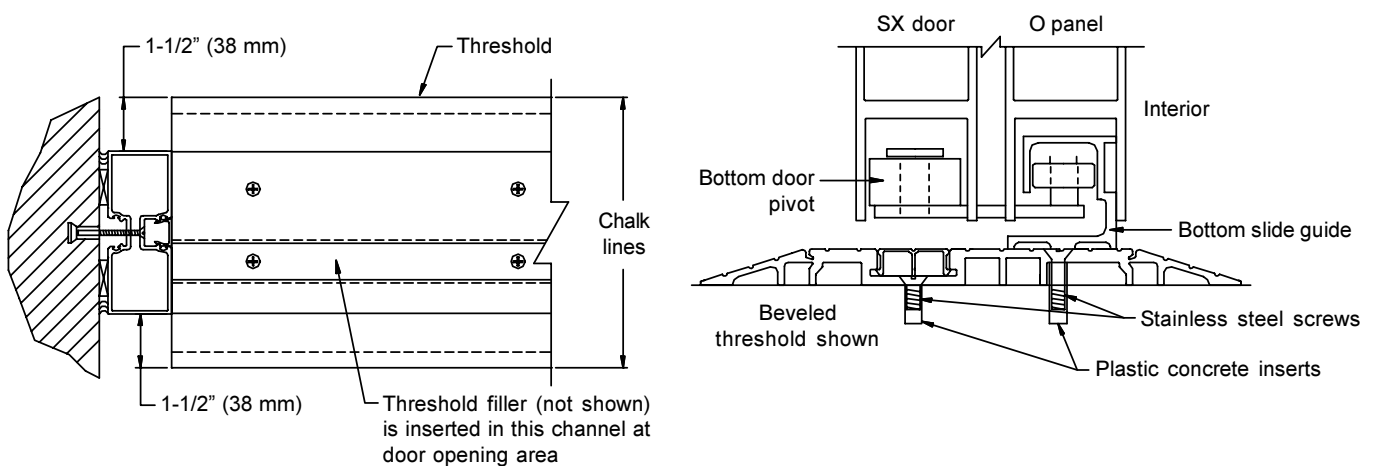
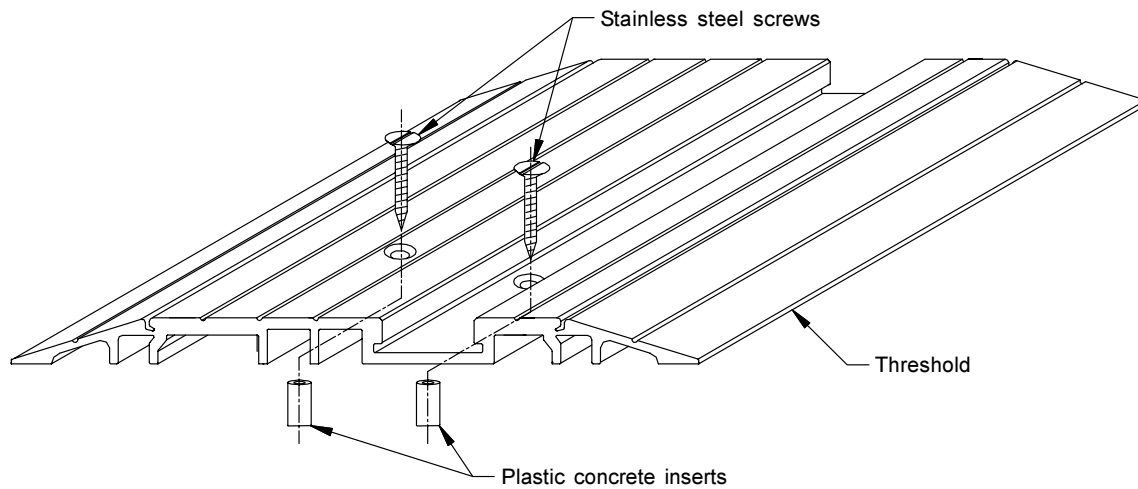

Figure 10. Installation of Threshold
Figure 11. Isometric of Threshold
1. After verifying that the floor is level, snap a chalk line 1-1/2" from the face of each jamb on both sides. Place the threshold between the jamb tubes within the chalk lines (**Figure 10**).
2. Verify that the track portion in the threshold (where the filler is to be located) is on the EXTERIOR side of the opening. Keep the threshold within the chalk lines and use it as a guide to drill through holes into the floor. Place plastic concrete inserts into the drilled holes. Use the stainless steel screws from the blister pack to fasten the threshold to the floor (**Figure 10 and Figure 11**).